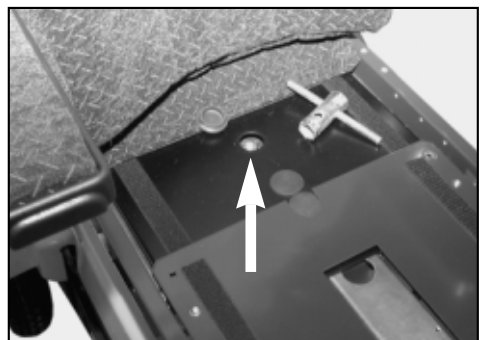

Figure 15. Seat plate
1. Remove the innermost plastic plug from the seat plate; see figure 15.